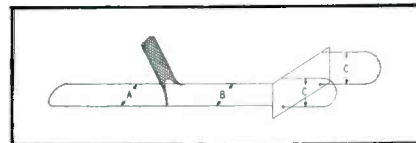

Fig. 3. Diagram of the coils used in the built-in TV antenna.
Fig. 3 (top and bottom1): tap-on splice technique applied when it is necessary to make a resistance tap on a coaxial cable without breaking the center conductor, thereby maintaining the size of the center conductor. In views (1), (2) and (3) we have the same peel back operations employed for the *through-splice* procedure except that the center conductor is not broken. The view in (4) illustrates the connection of a tap-on resistor used to isolate TV receivers from the coaxial line. The side of the resistor connecting to the center conductor of the coax cable has a tight polyvinyl or polyethylene spaghetti insulation. The resistor connection taped in place with high-frequency tape is shown in illustration (5). In views (6) and (7) we have the shield connection and final taping operations which are similar to those described in the *through-splice analysis*.